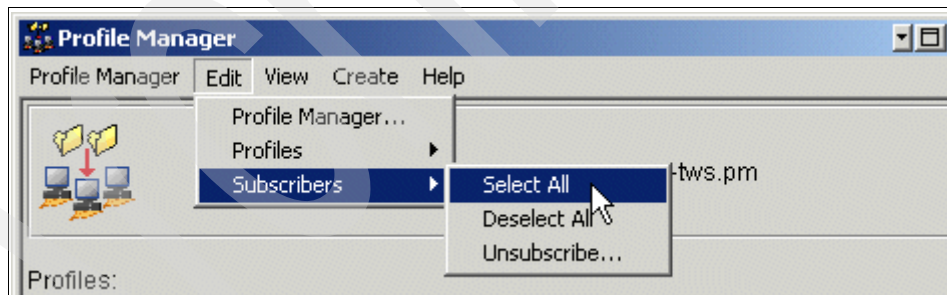

Figure 9-142 Selecting all subscribers.
9. Select **Edit** → **Subscribers** → **Select All** as shown in Figure 9-142.